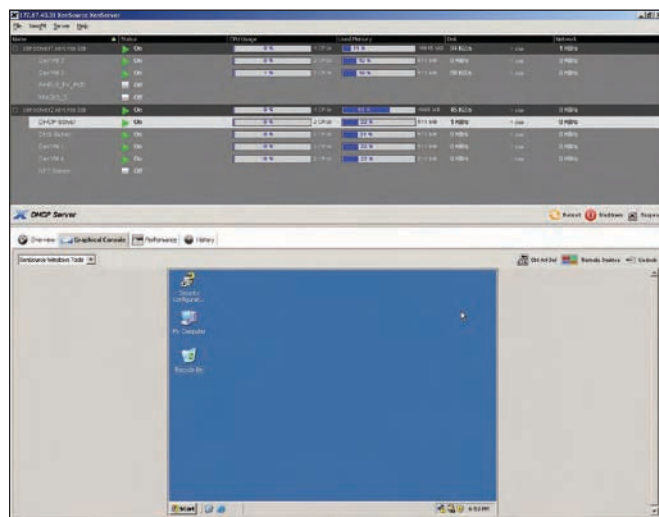

Figure 3. One-to-many administrator GUI for the XenSource XenServer family
- A one-to-many administrator GUI available from Windows- and Linux-based management stations that administrators can use to create, manage, and monitor multiple VMs and interact with their consoles or, alternatively, launch other desktop interfaces such as Windows Remote Desktop (see Figure 3)